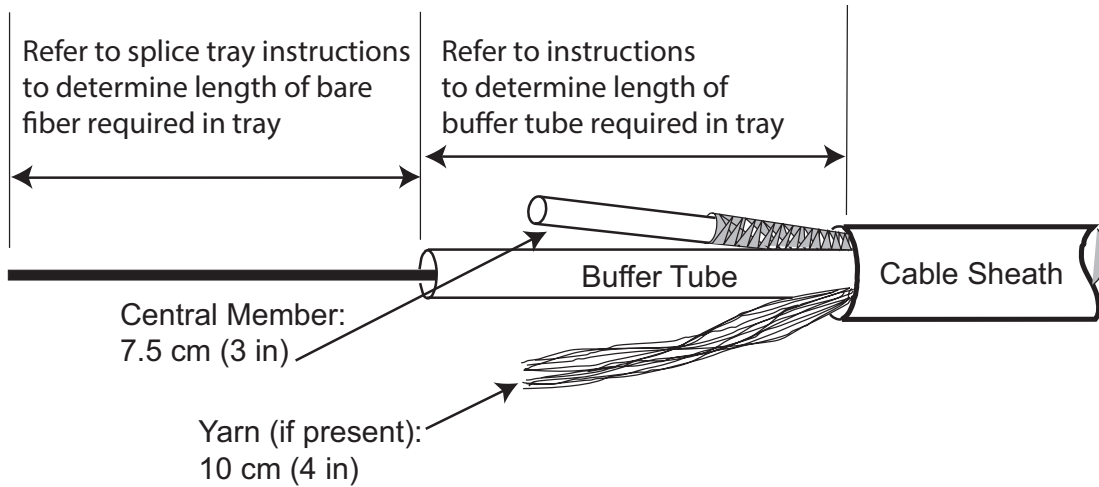

Figure 2
Step 3: Pull the cable into the unit as far as necessary to safely remove cable sheath. Recommended strip lengths are shown in Figure 2. Do not expose the bare fiber until the cable is installed in the cabinet.